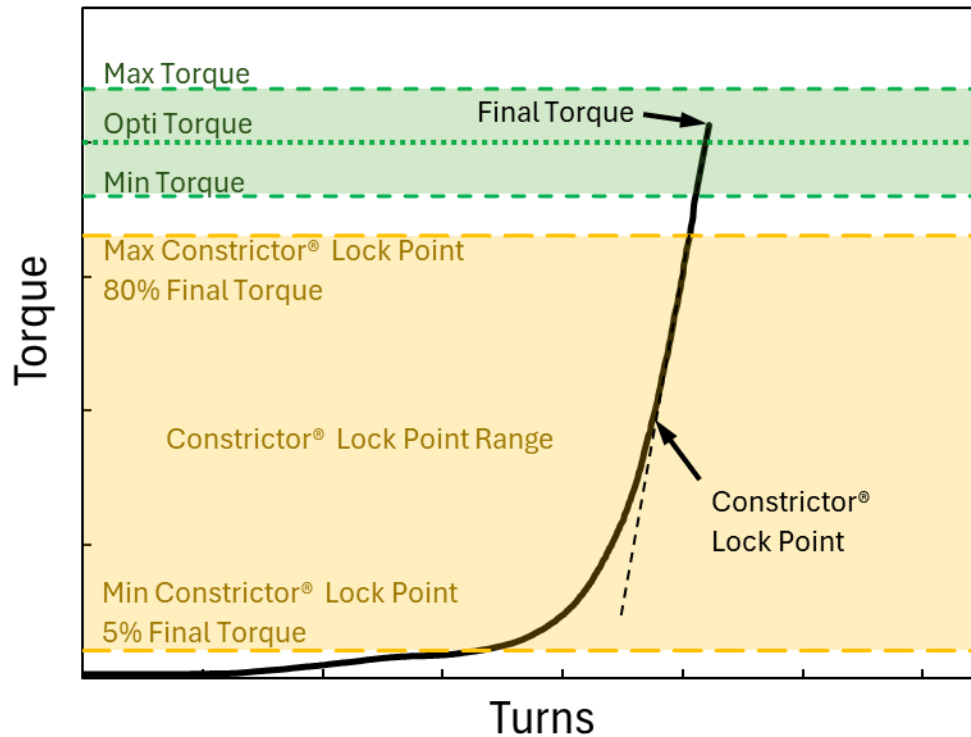

Figure 5 – Cobra® SP Torque-Turn Signature
- Verify the make-up result against Figure 5.
- Figure 5 shows an example of an acceptable make-up signature.